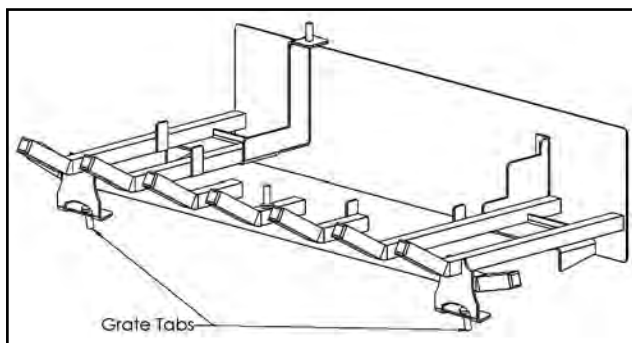
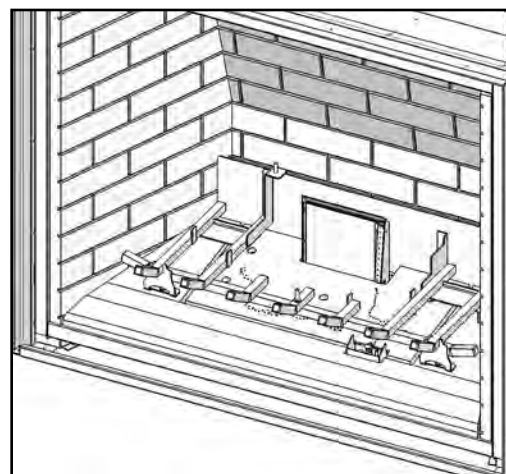

Figure 59: Tab on Firebox Grate.
Figure 60: Firebox Grate in Place.
4. The firebox grate has two (2) tabs that run below the feet of the grate (see Figure 59), place the grate over the burner top and carefully inserting the grate tabs into the slots on the burner (see Figure 60). Once the grate is installed correctly, the burner, grate, and side burner accents will be all locked together.